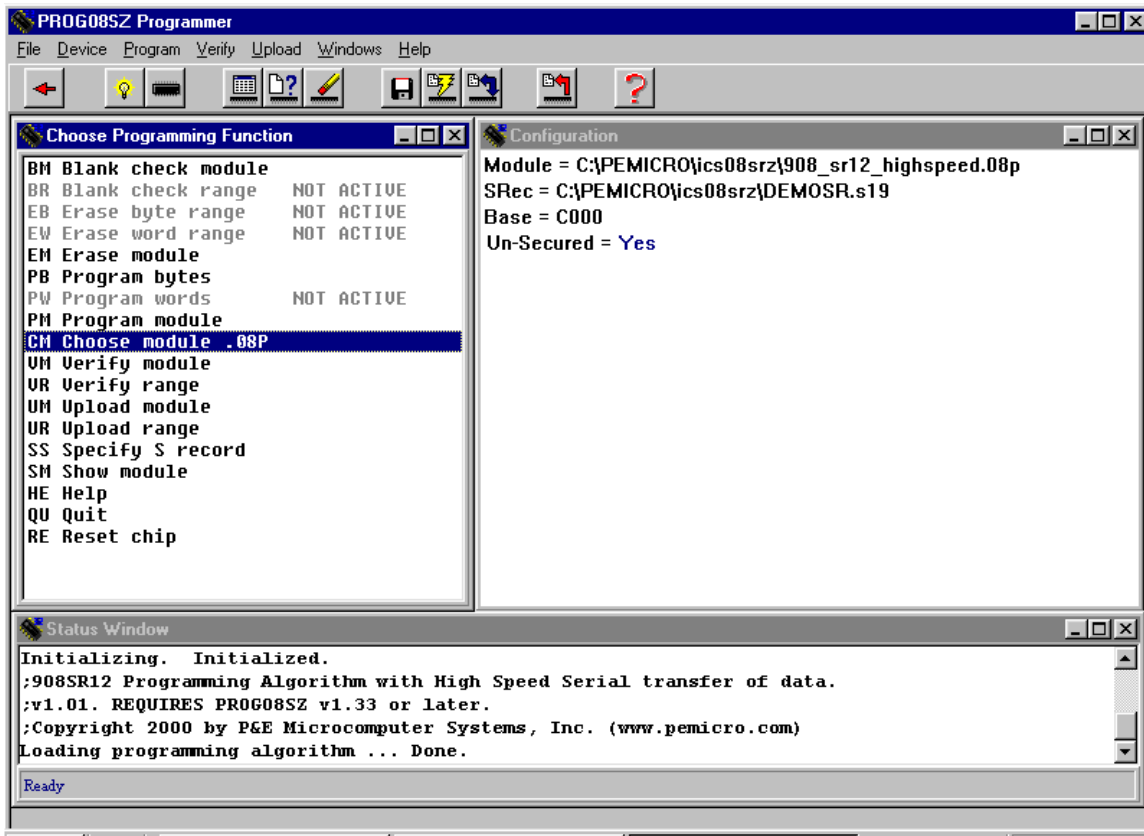

Figure 9. P&E's Programmer Window
- m. Double click on “Erase Module” – EM (see Figure 9).
- m. Double click on "Erase Module" – EM (see **Figure 9**).